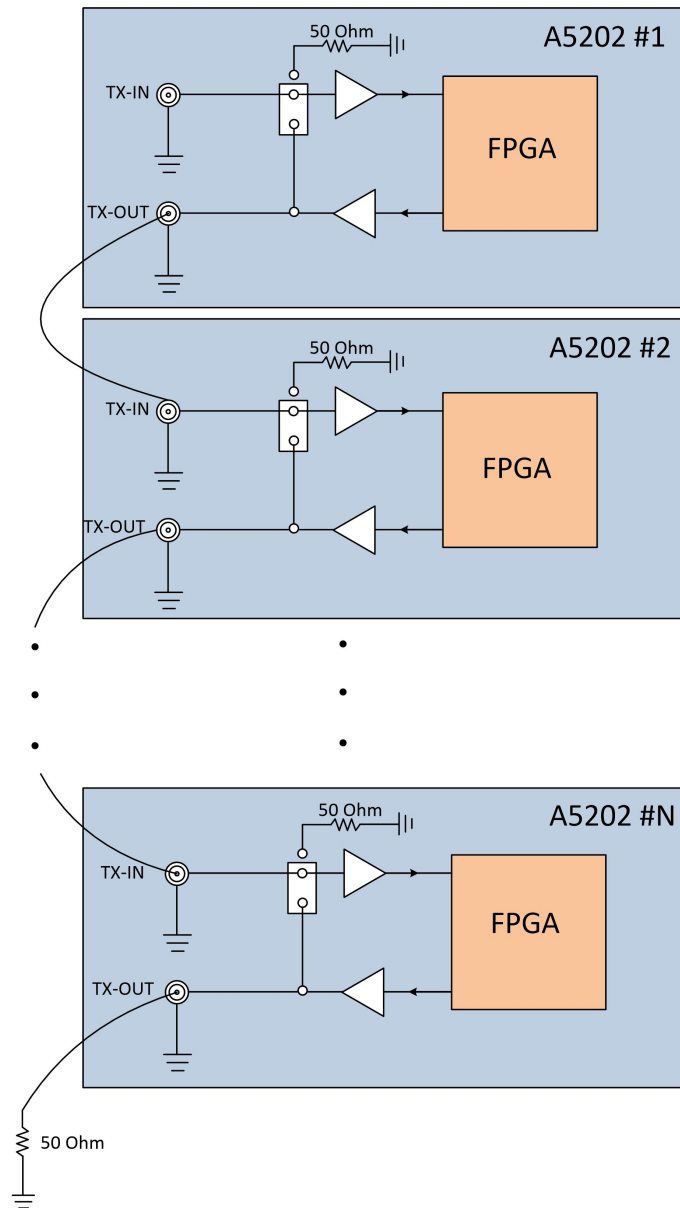

Fig. 8.13: Schematic diagram of a wired-OR connection.
By performing slight changes to the system presented in Sec. 8.4.5, the user can also create a wired-OR connection between all boards composing the FERS-5200 system. In Fig. 8.13, a schematic overview of a system composed of N A5202 units with the connection necessary to perform a wired-OR of the TX-IN/TX-OUT connectors is presented.
- Create a daisy chain connection as in Fig. 8.13.